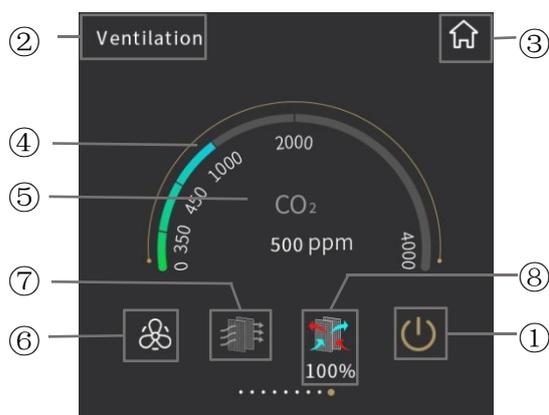
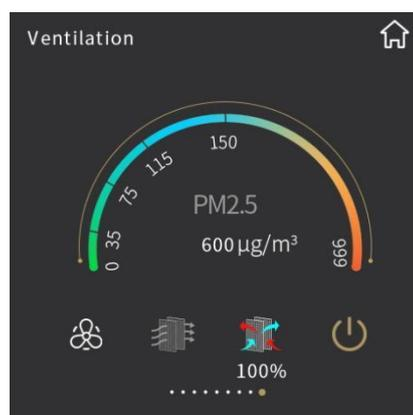
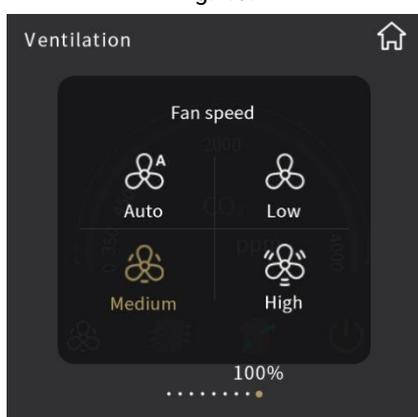

Fig.2.6.1
Fig.2.6.2
Fig.2.6.3
Only when auto fan speed control of ventilation system is enable would this interface display, as shown in Fig.2.6.1 and Fig.2.6.2.
CO2 concentration as shown in Fig.2.6.1, according to the value received from the bus, range 0~4000ppm; if the data exceed 4000ppm, then the interface will display 4000ppm.
PM2.5 concentration as shown in Fig.2.6.2, according to the value received from the bus, range 0~999ug/m3; if the data exceed 999ug/m3, then the interface will display 999ug/m3.
There is up to 4 options for fan speed mode: Auto, Low, Medium and High. When fan speed auto control is enable, auto fan speed adjustment will be displayed on the interface, shown as Fig.2.6.1 and Fig.2.6.2. Whether fan speed auto control is enable or not is configured through parameter configuration.
**⑦ This icon is the filter timer icon;**
Whether the filter timer counter function is enable or not is configured through parameter configuration. When disable, there will be no display of filter timer counter function on the interface as shown in Fig.2.6.1; when enable, icon⑦ will be colorful after ventilation system ON, the remaining evaluation value will be displayed next to it. The value will be updated according to the use time, which will be updated through the bus.
parameter configuration. When disable, there will be no display of heat recovery function on the interface as shown in Fig. 2.6.1; when enable, heat recovery function is turned on by default when ventilation system is ON, and the heat recovery function can be turned on or off by touching icon⑧. The icon on indicates that the heat recovery is on; the icon off indicates that the heat recovery is off. In addition, heat recovery function can be turned on or off through the bus. And there would be no responding after enable heat recovery function.
⑨ **This ring bar displays specific fan speed level;**
⑩ **To increase fan speed level by touching this icon;**
⑪ **To decrease fan speed level by touching this icon.**
When fan speed is not configured as auto, as shown in Fig.2.6.3, by touching icon⑩ and icon⑪ to adjust fan speed; for each touch of icon⑩ and icon⑪ to adjust one level, there are 3 modes of fan speed: Low, Medium and High. At this time, the adjustment is manually, not automatically according to the concentration of CO2 or PM2.5.